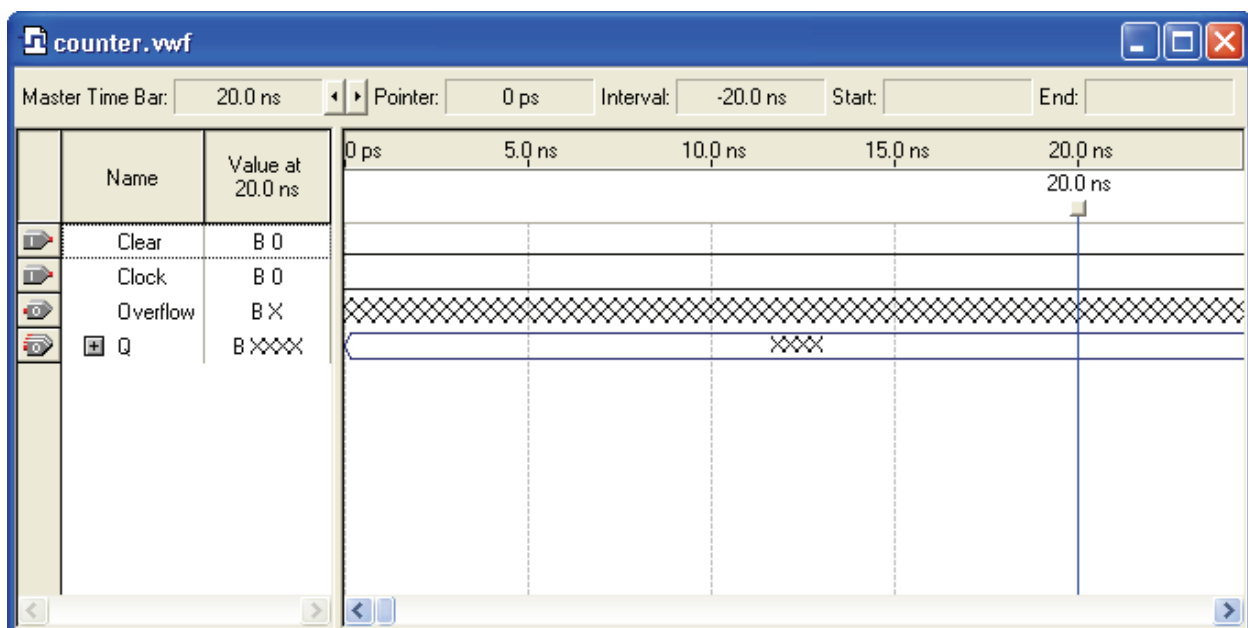

Figure B.7 The Vector Waveform window with the four signals for simulation.
- Click on the **OK** button in the Insert Node or Bus window to insert the selected signals to the Vector Waveform window as shown in Figure B.7.